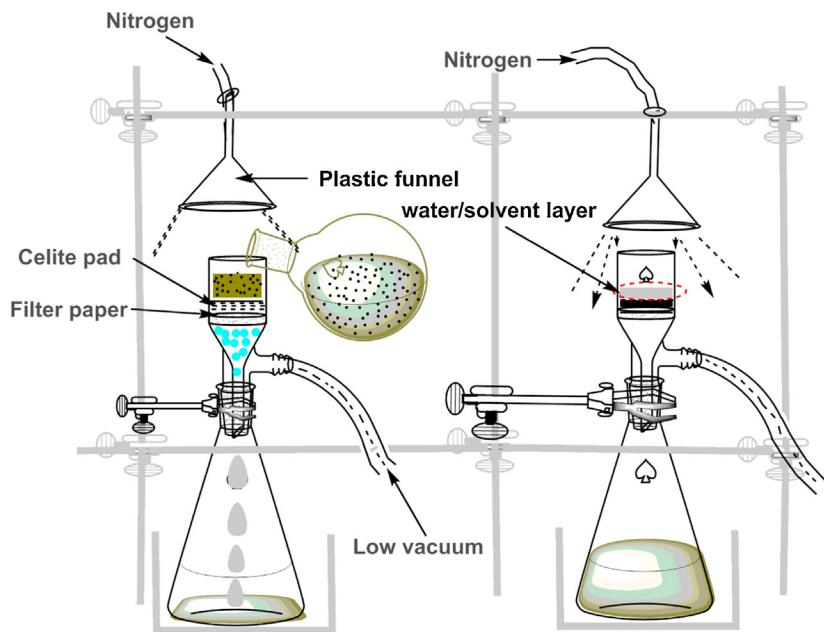

Figure 2. A diagram of how to create an inert atmosphere over filtration apparatus. (Chandra et al.)
- If practical, provide an inert atmosphere over the filtration apparatus per Figure 2. If this is not practical, consider using a Schlenk frit.